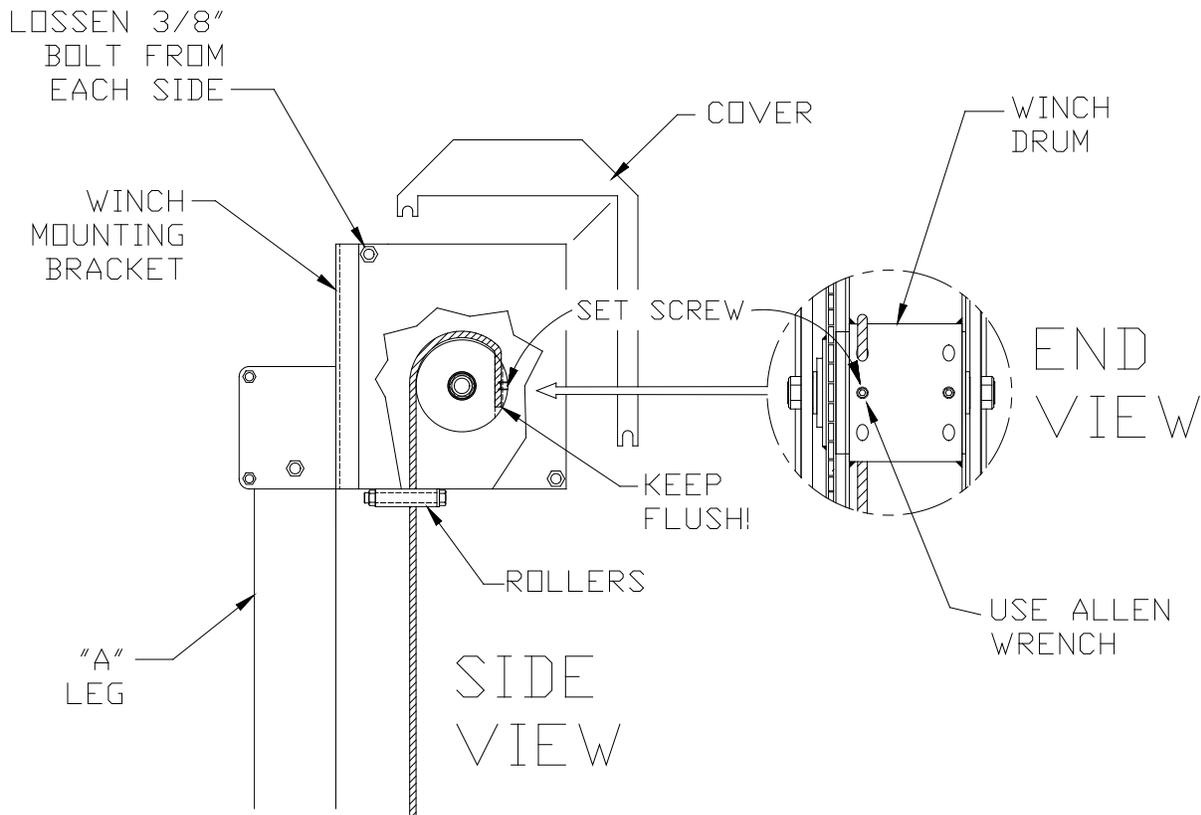

Figure 3-1
1. Refer to Figure 3-1. Remove the cover from the winch housing by loosening only the three 3/8" bolts.
3. Starting from the bottom of winch, reeve the cut end of cable between the cable guide roller assembly, and up the back side of winch. Wrap the cable over the top of winch drum and insert cable into the hole on the drum as shown in Figure 3-1. **Keep the cable flush with the drum wall.**